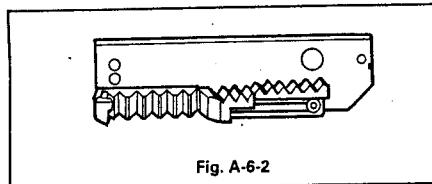

Fig. A-6-2
① Turn the Drive Gear Assembly in the direction of arrow (C).
- ② Reassemble the Rack Gear N.D. to the Side Bracket Assembly, as shown in Fig. A-6-2, and then reassemble